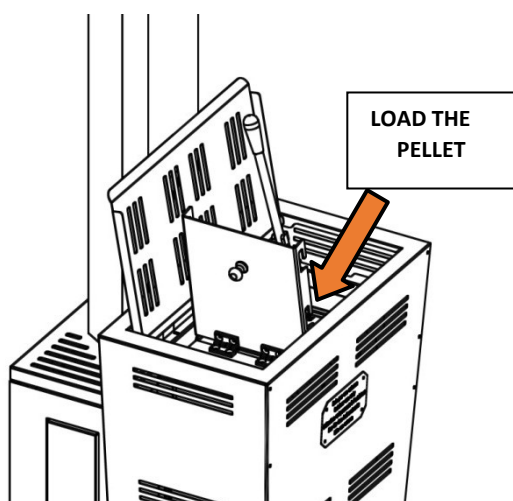

Fig. 11
- Raise the lid **B** and put pellet in the tank (fig.11).